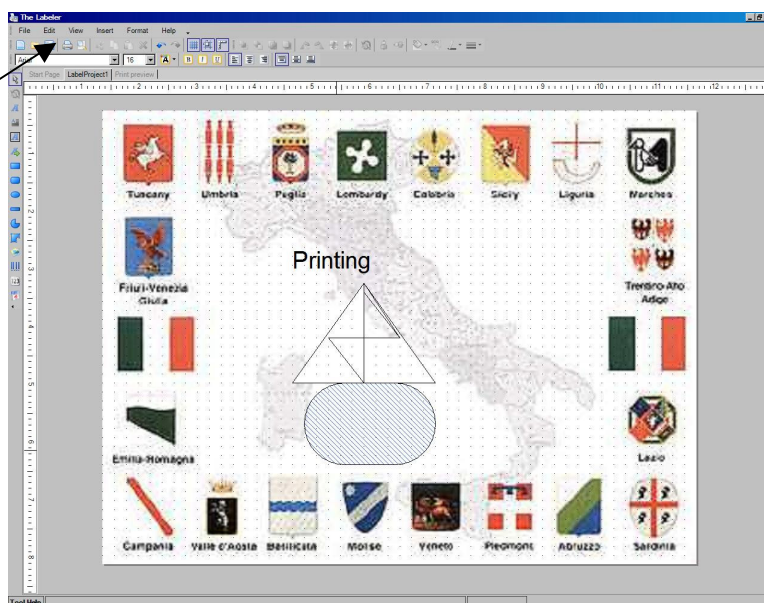

Figure 5.4.1: Selecting Print from the Standard Toolbar
1. Click on the print  icon on the standard tool bar (see Figure 5.4.1), you can also find it in the file menu (see Figure 5.4.2) .